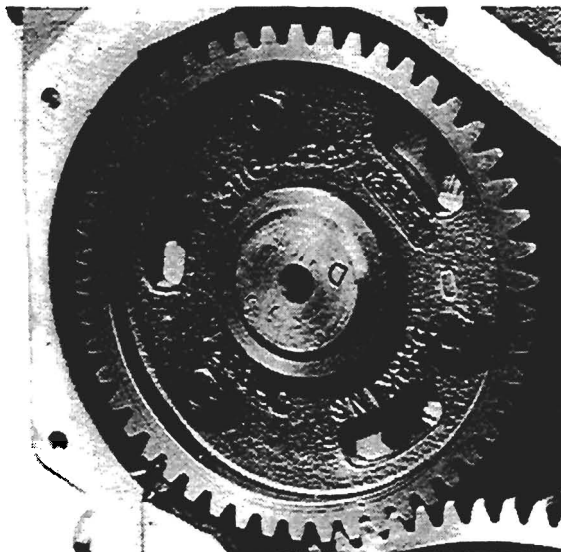

Fig. K6
2. The spigot of the camshaft is stamped with the letter "D" and the camshaft gear is also stamped with the letter "D" (see fig. K6). Fit camshaft gear to camshaft with the letters "D" aligned. Do not fasten gear to camshaft by use of the slotted holes.